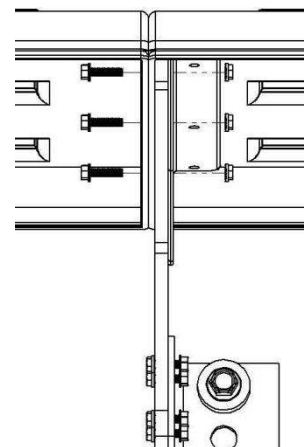

Figure 8
- E. Install the center brackets as close where the fenders join together as possible (Figure 8).